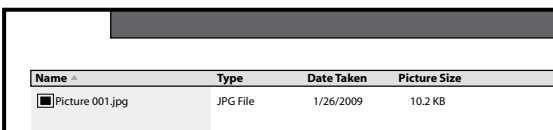

Figure 10
5. The photo file names will display below the "Photo Area" (fig. 10).
6. Double-click the a photo file name for additional tools (fig. 10).